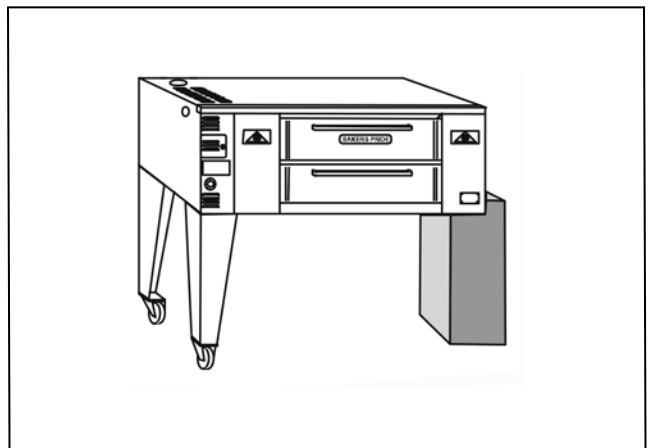

Figure 6
- Using proper lifting equipment, lower the oven from its back to its bottom. Lift the unit and set on stand. (See Fig.6).